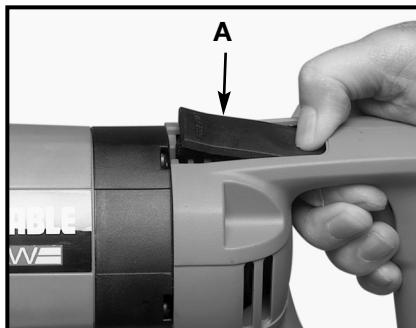

Fig. 8C
The **Model 747** handle can be rotated 90° to the right or 90° and 180° to the left. To rotate handle, depress locking lever (A) Fig. 8C and rotate handle to the desired position. After adjusting make sure handle is locked in position before using the saw.